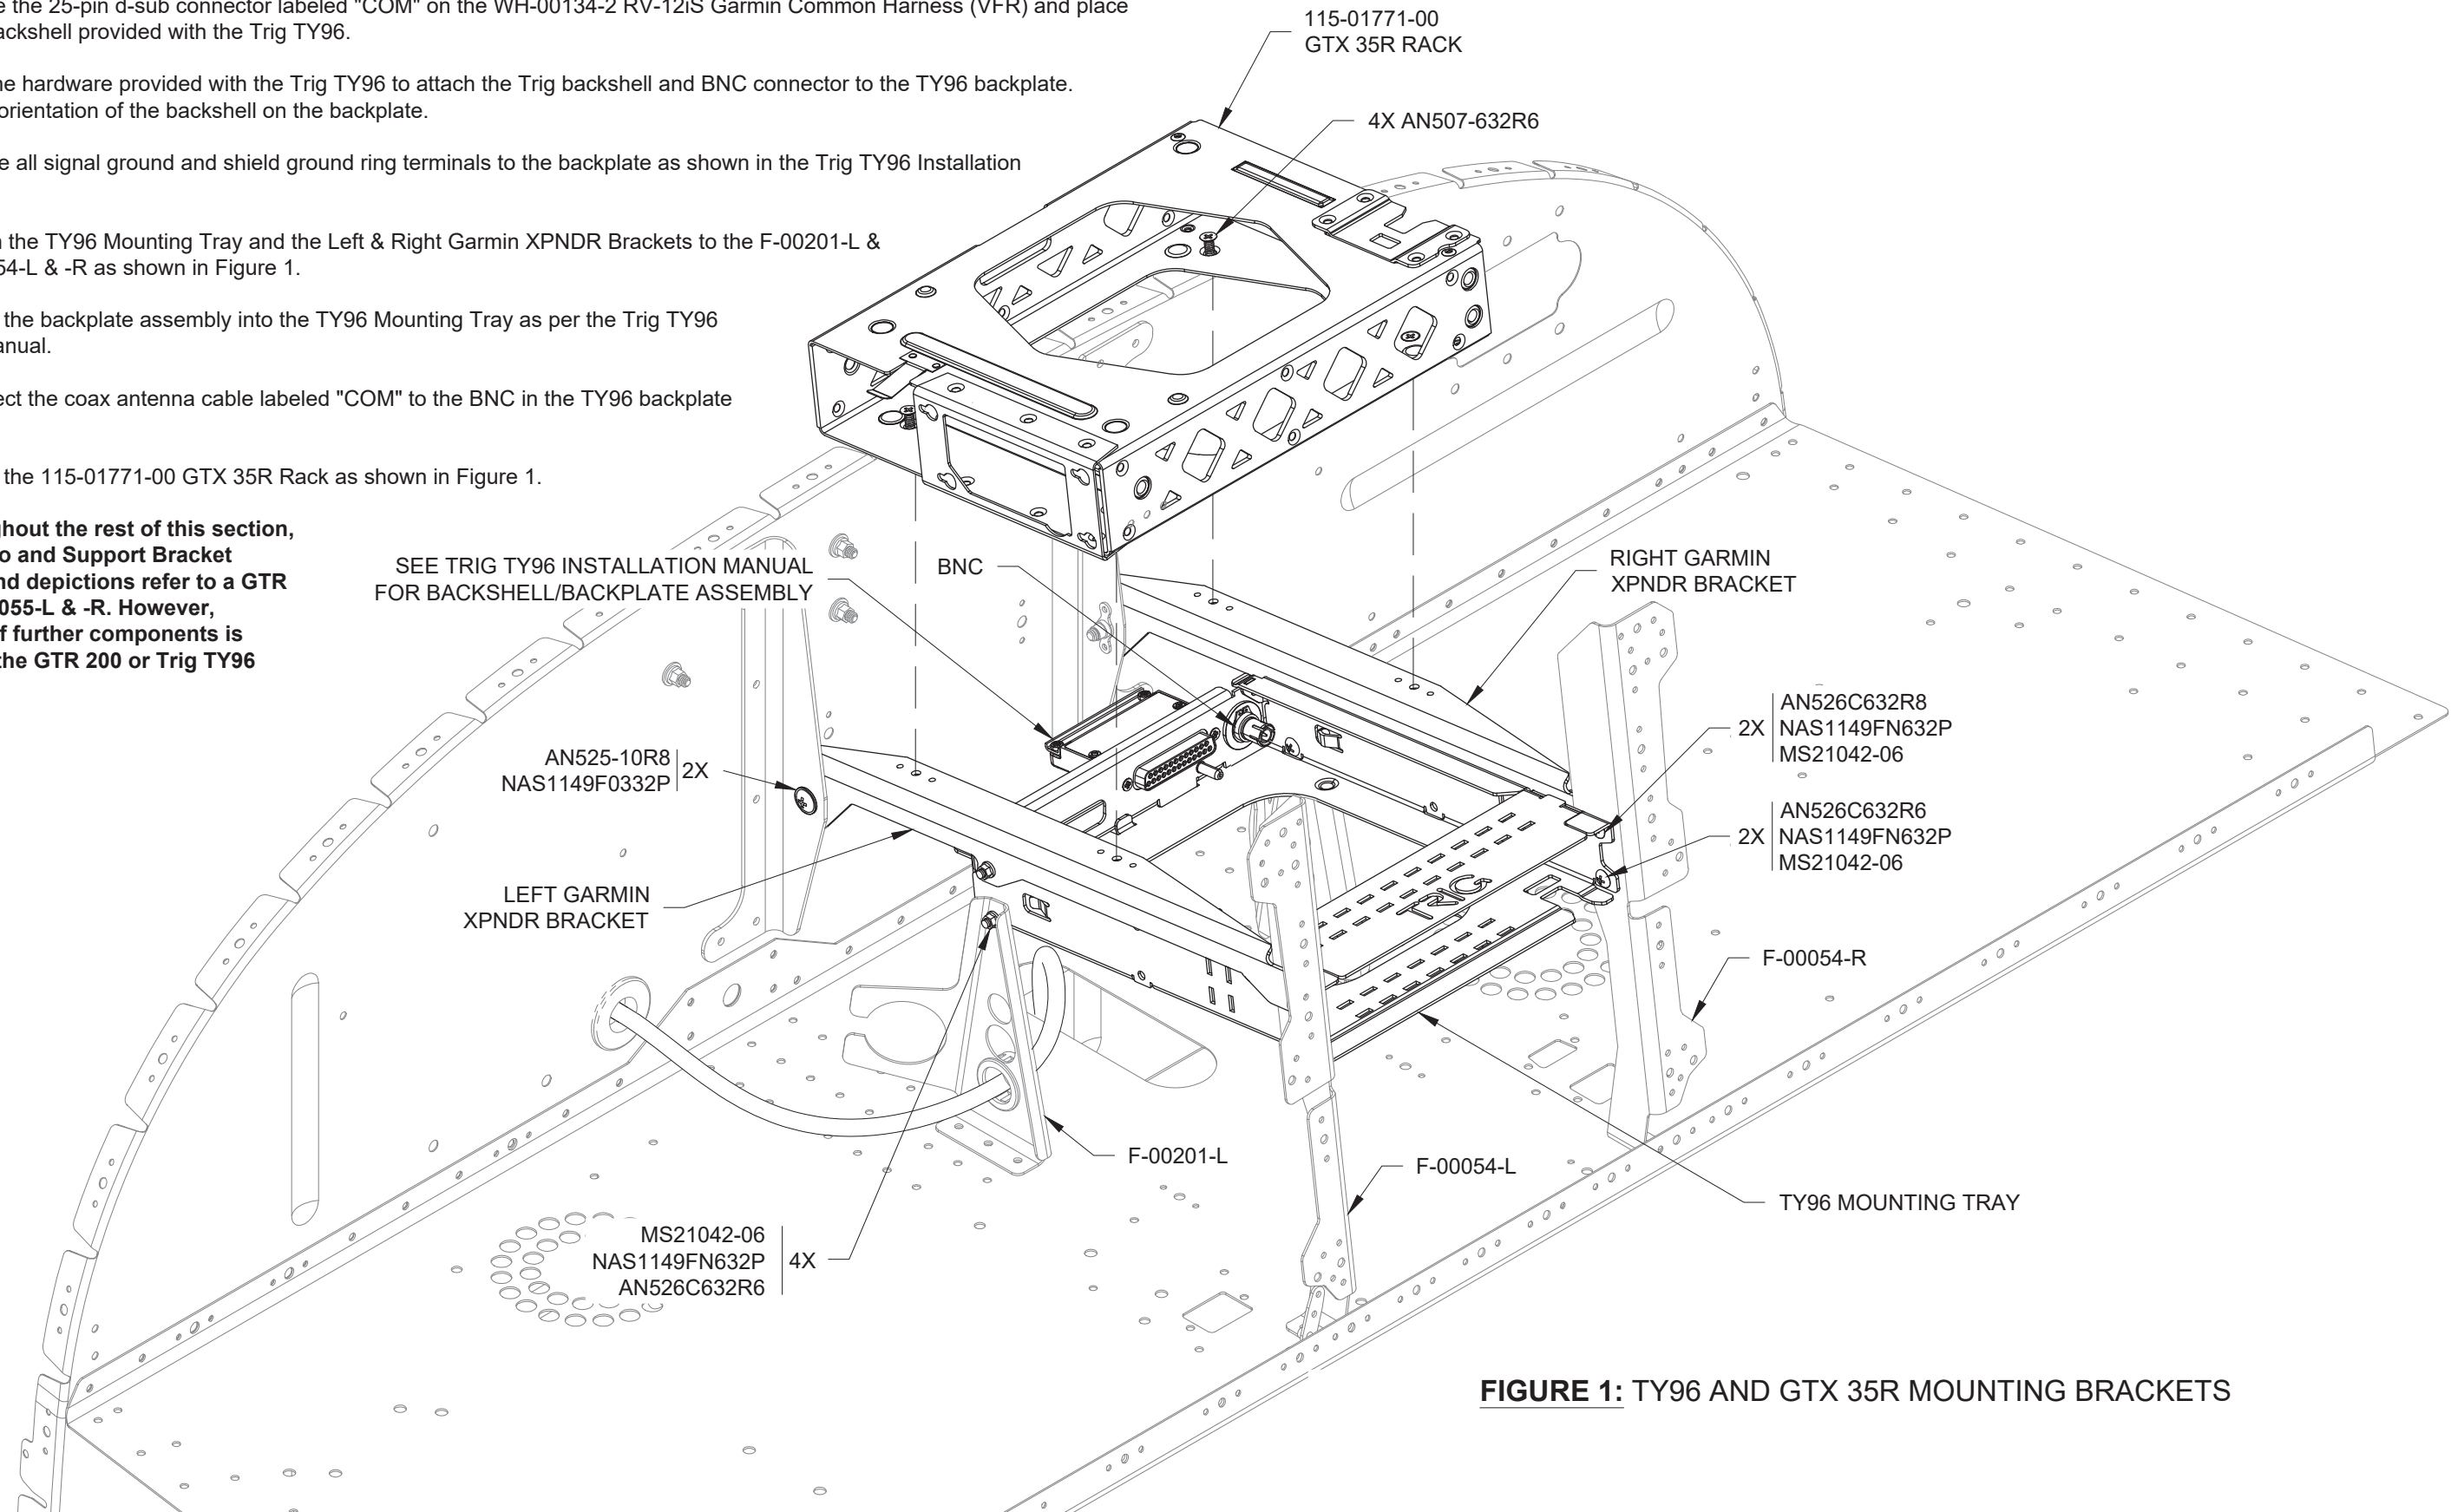

FIGURE 1: TY96 AND GTX 35R MOUNTING BRACKETS
Step 7: Install the 115-01771-00 GTX 35R Rack as shown in Figure 1.
- Step 1:** Apply a thin smear of fuel tank sealant around the three holes called out in Figure 1.